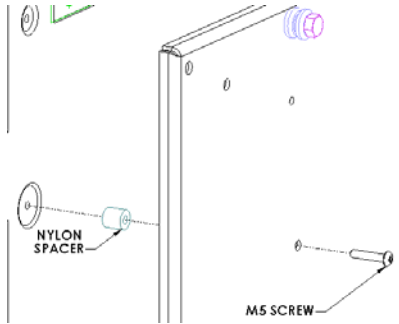
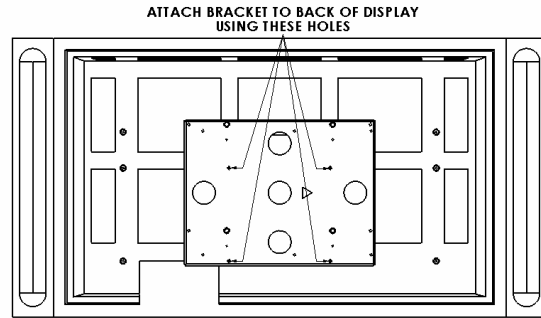

Figure 4
Figure 5
2. Place Nylon spacers over mounting holes on back of display. Attach mounting brackets to the display using the M5 button head cap screws (see Figure 4 & Figure 5).